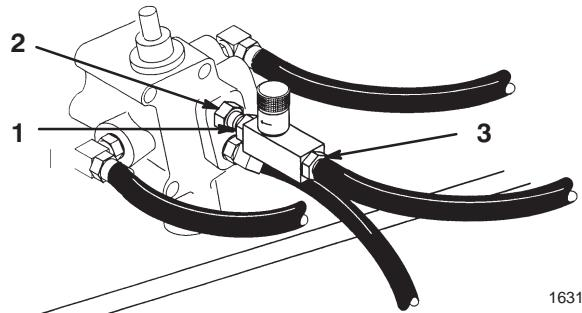

Figure 4
3. Thread valve assembly swivel fitting onto the adaptor fitting in valve body (Fig. 4).